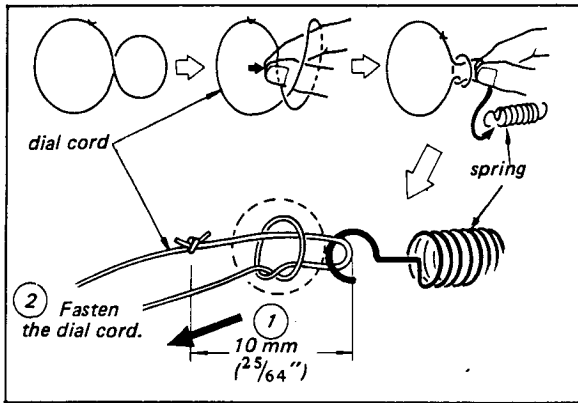

Fig. 2-8. Finish point of dial cord
3. Make a knot and hook a spring to the dial cord and then fasten the knot as shown in Fig. 2-8.